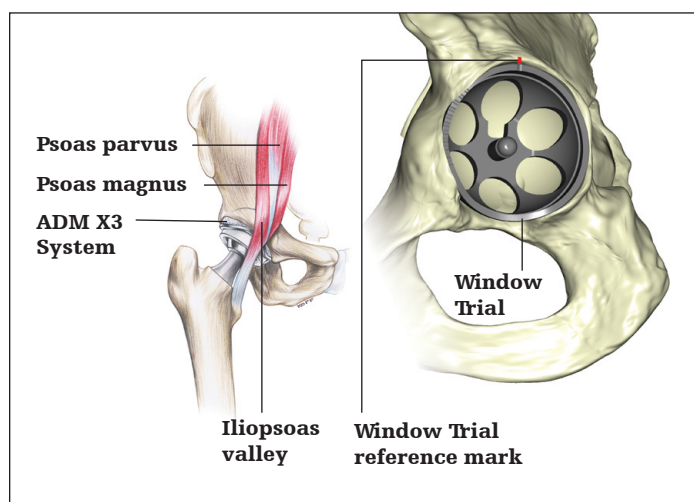

Figure 6
- **Important:** The design of the cup allows it to anatomically fit into the shape of the natural acetabulum, thereby helping to prevent impingement with the iliopsoas tendon. The Restoration ADM Window Trial incorporates grooves that must be positioned in regard to the iliopsoas tendon. Once the Window Trial is set, it is recommended to make a mark on the acetabulum at the level of the superior reference mark (**Figure 6**). This reference mark will provide a guideline for placing the final implant. The Restoration ADM implant should be positioned so that the superior mark on the cup is aligned with the mark on the acetabulum.